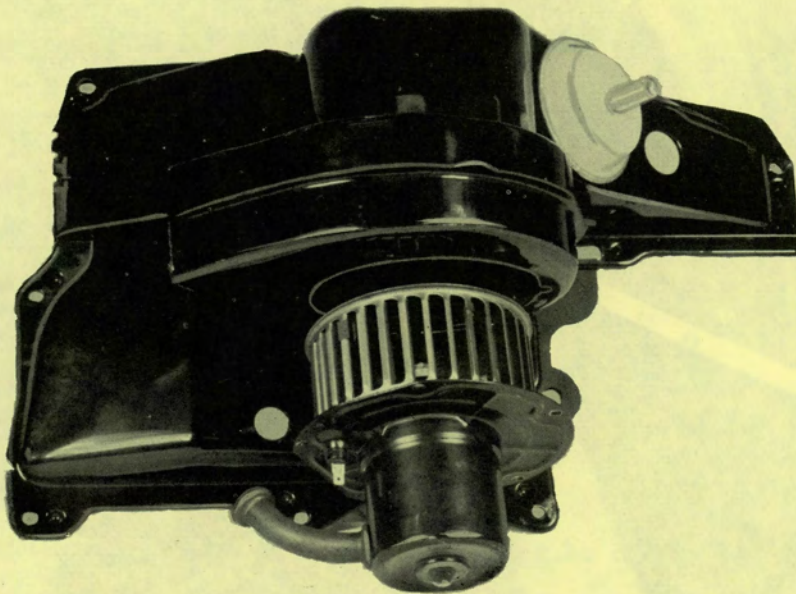

FIGURE 3
2. Take out five screws holding blower motor assembly onto Plenum Blower and Air Door Assembly and take out blower motor (see Figure 3).